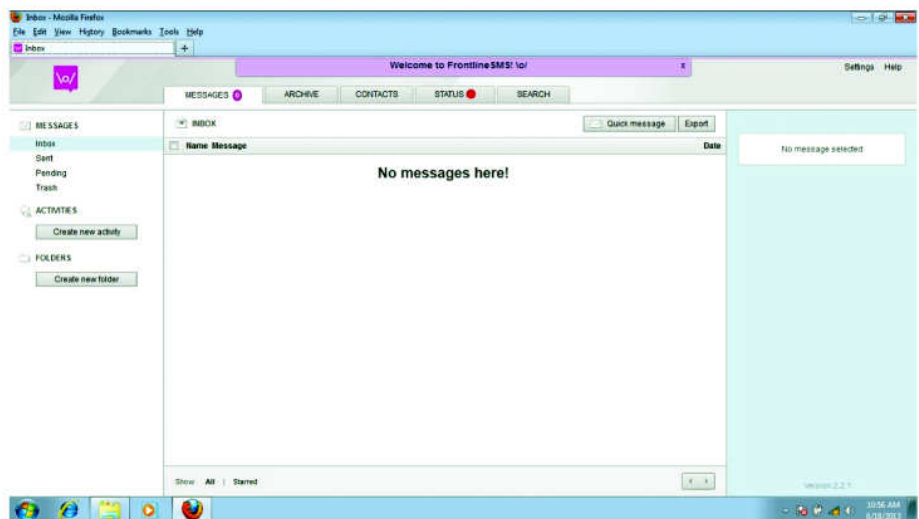

Figure 15.3: The primary interface for Frontline SMS
- An excellent option is the free and open source software **Frontline SMS**, which is being extensively used the world over by many radio stations. This software is browser-based, and works with a large variety of mobile phones and GSM modems. (Go to www.frontlinesms.com to see a complete list of supported phones and GSM modems. It may be a good idea to consult the database before buying a phone or a modem for the purpose or installing the software on your computer.) The software can handle bulk SMSs with ease while keeping a meticulous database of all the SMSs you send or receive, also allowing categorization and time-based search. It also maintains a list of your contacts. Figure 15.3 shows you the main window of the Frontline SMS software.